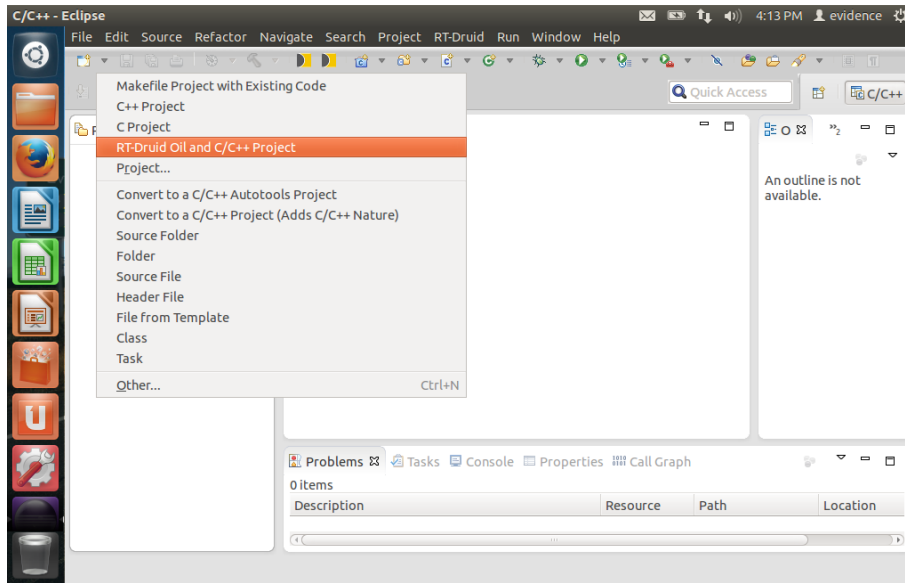

Figure 3.4: Select “RT-Druid Oil and C/C++ Project” to create an RT-Druid project that will contain the demo.
3. Click on the “New” button in the toolbar (the first on the left), and choose “RT-Druid Oil and C/C++ project”, as shown in Figure 3.4. A Dialog Box will appear.